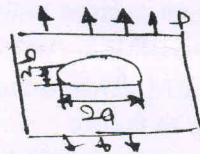

Fig Q2(b)
b. A plate containing the hole is applied uniform stress σ of a value 100MPa. Estimate the magnitude of stress at a point p as shown in Fig Q2(b) for the condition :